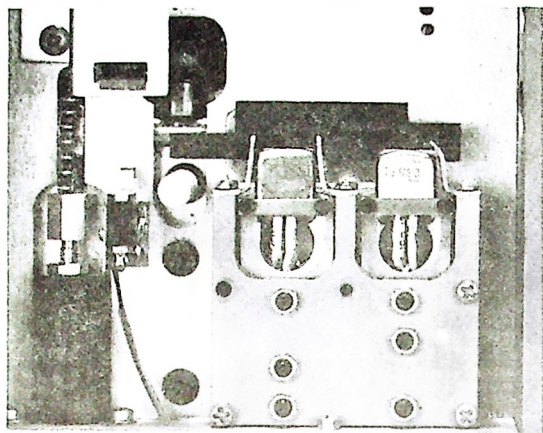

Figure 3-9
- b) Position the gauge into the guides with the cut-out areas toward the heads. (Figure 3-9.)